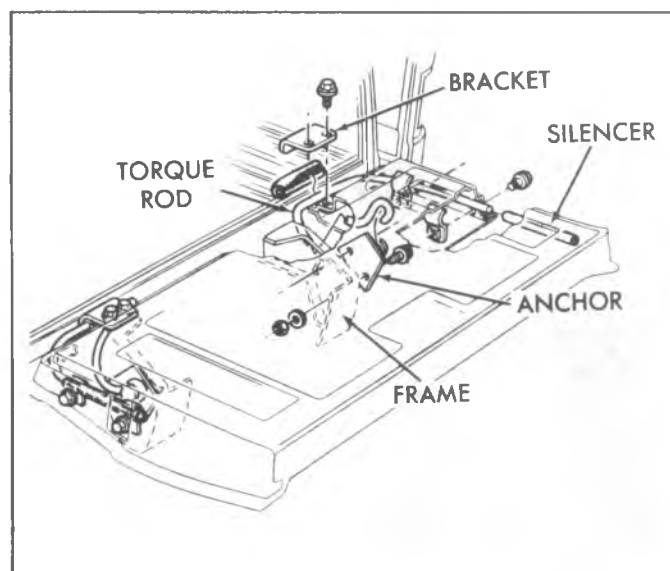

Fig. 2D-66--Torque Rod (Utility)
5. Remove torque rod retaining bracket on lower edge of endgate. See figure 2D-66.
7. Lift torque rod up and slide from endgate as shown in figure 2D-67.